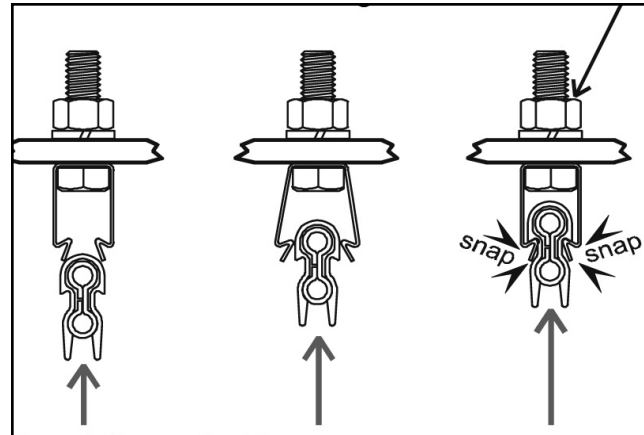

Figure 22-2 Steel Snap-In Hangers
- A. For steel snap-in hangers, torque mounting bolt to 12-14 ft. lbs. after installing all conductor bars. See **Figure 22-2**.